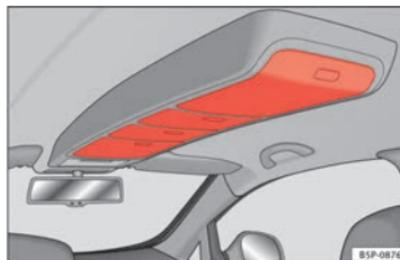

Fig. 98 In-ceiling storage compartments
- Press the button on the cover to open these compartments ⇒ Fig. 98. The cover will then open. ▶